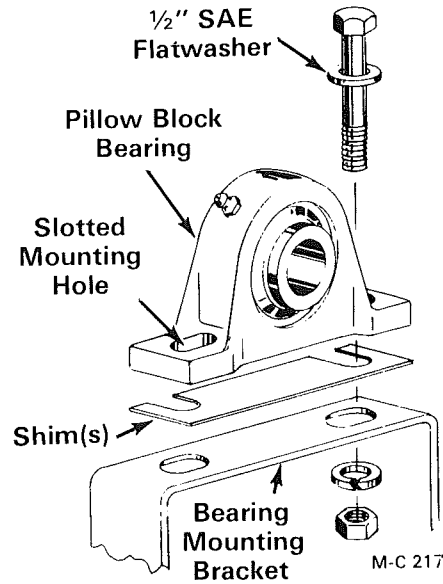

Figure 26
remove the shim(s) from under the output shaft bearing, see Figure 26.
9. Lift up on the output shaft and place the shim(s) on the output shaft bearing mounting bracket, see Figure 26. Install the capscrew, SAE flatwasher, lock-washer and hex-nut. Align the edge of the output shaft bearing with the mark scribed on the mounting bracket made in step 5, see Figure 25. Tighten the output shaft bearing capscrews and set screw in the bearing collar.